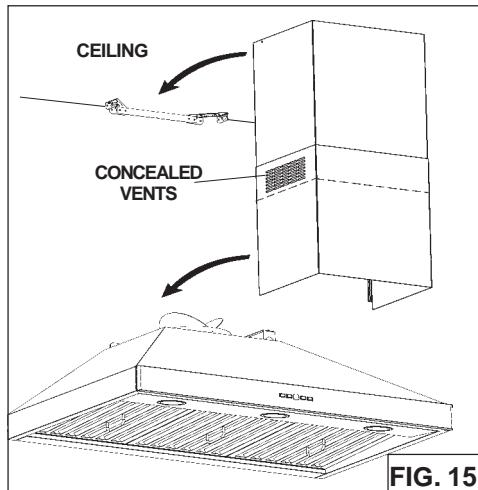

FIG. 15
5. Install upper and lower decorative flues onto the range hood. Vents are concealed on 8-foot ceilings. Vents maybe exposed on 9-foot ceilings (Fig.15).